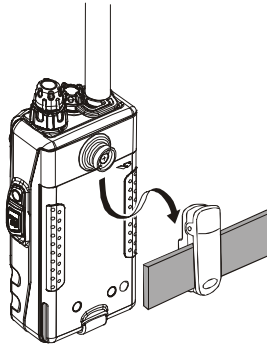

Figure 3
- ❑ To install the **VX-177** into the Quick-Draw Belt Clip, align the hanger with the Quick-Draw Belt Clip, and slide the **VX-177** into its slot until a click is heard (Figure 3).